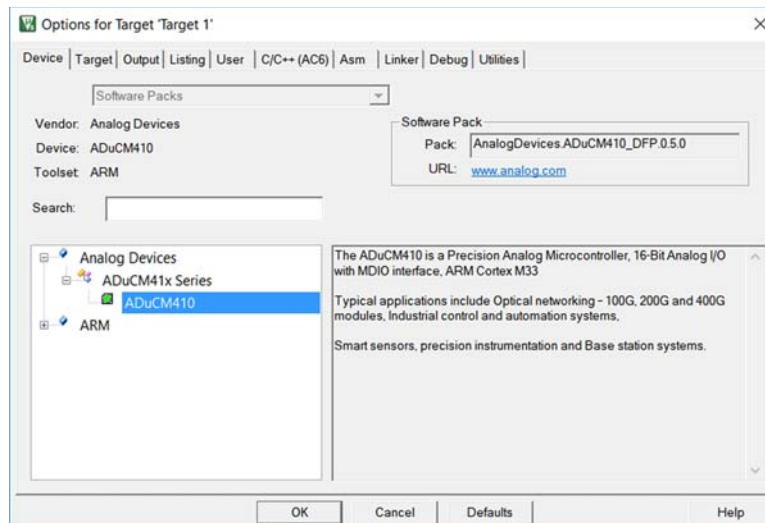

Figure 7. ADuCM410 Device in Keil μVision5
3. With the ADuCM410 CMSIS pack installed, the ADuCM410 device is supported by the Keil μVision5 IDE. The **ADuCM410** appears in the **Device** tab of the Keil window, as shown in Figure 7.